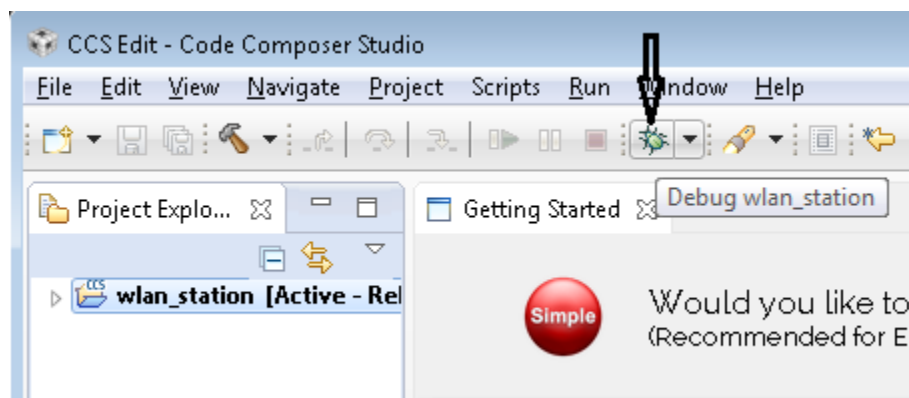

Figure 15. Debug `wlan_station`
18. Launch application. Select the `wlan_station` project in Project Explorer, then click the debug icon as shown in Figure 15 to download code to the device and begin debugging. Press F8 to begin execution.